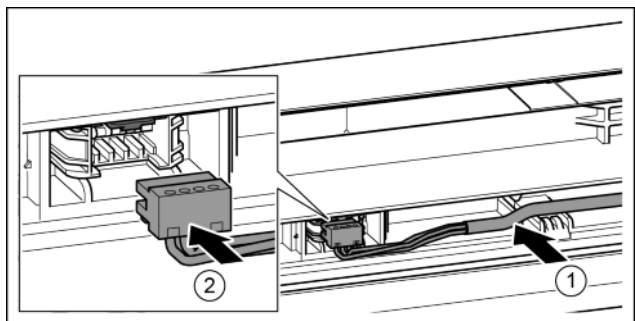

Fig. 38
- ▶ Insert the grey cable into the guide in the top door. *Fig. 38 (1)*
- ▶ Engage the plug. *Fig. 38 (2)*